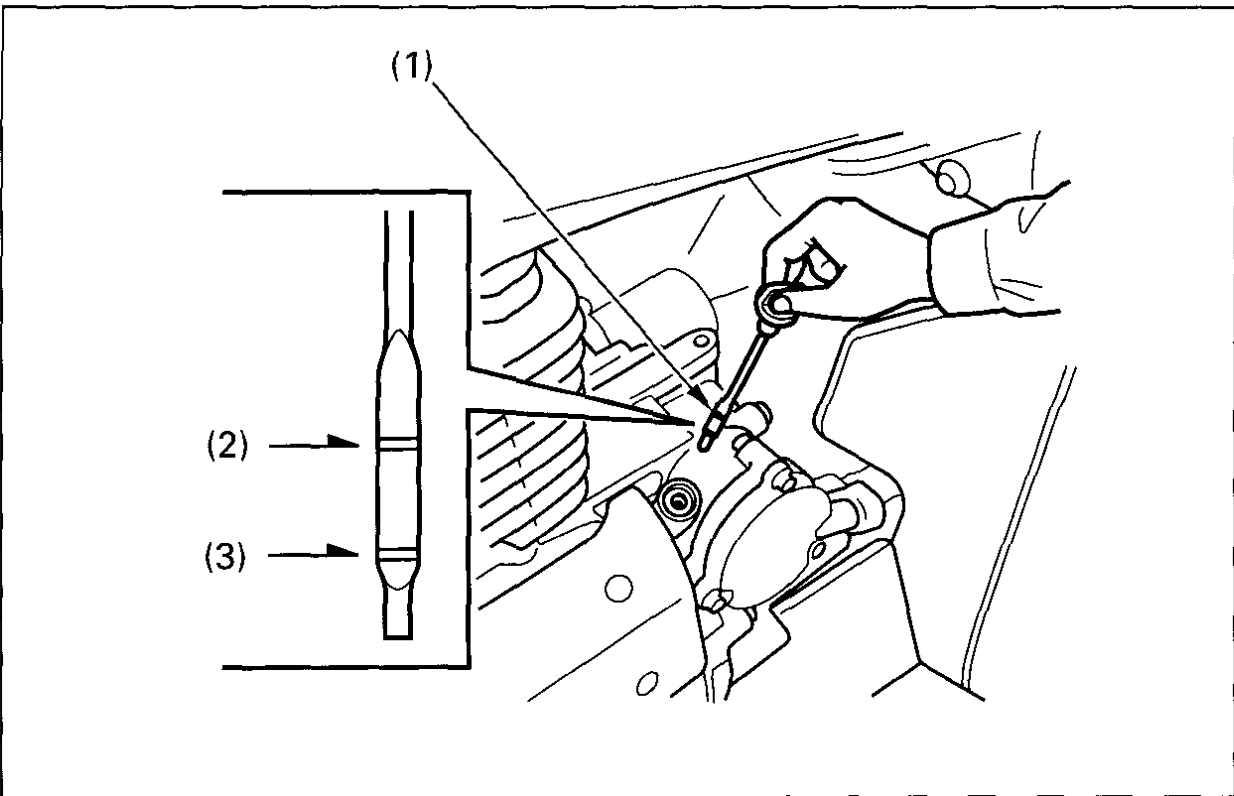

Fig. 2-28 (1) Dipstick
The dipstick (Fig. 2-28), on the right side of the front crankcase cover, is used to measure the oil level. The oil should be checked each day before operating the FOURTRAX and maintained between the upper level mark (2) and the lower level mark (3).